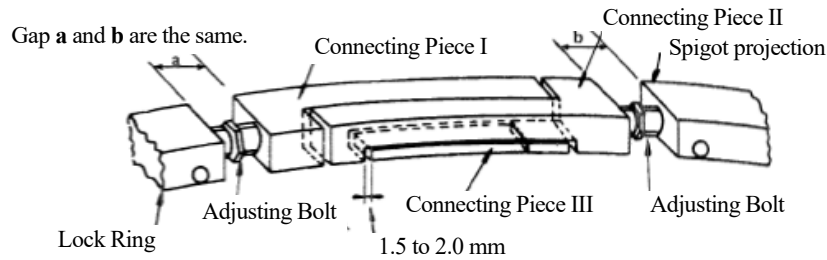

Figure-8 Adjustment of Lock Ring Connecting Pieces
(5) Keep tightening the fastener nut to complete contact with the Lock Ring and the spigot surface. Insert the Connecting Piece III into the Connecting Piece slot. Turn both Adjusting Bolts to fine-tune the gap between Connecting Pieces II and III from 1.5 mm to 2.0 mm. (See Figure-8.) Balance the "a" and "b" gaps between the Lock Ring and Connecting Pieces to the same distances.